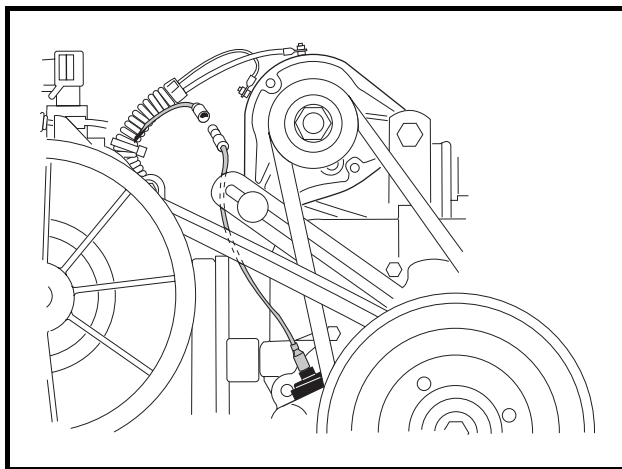

Figure 19-43 Oil Level Sensor Jumper wire
20. Connect the oil level sensor wire (18-gauge yellow) to the jumper wire (**Figure 19-43, Page 19-16**).